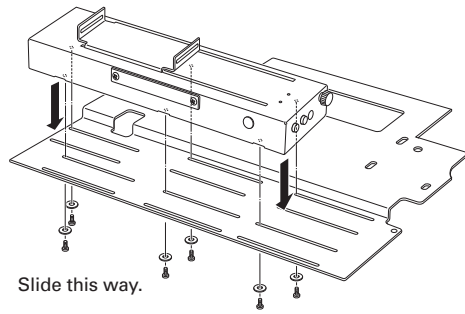

Figure 7
- Secure the lens slider to the base plate using the supplied machine screws (M3 x 8) in 6 locations. When attaching to a VP series projector, slide the lens slider to the end as shown in Figure 7 and secure in place.